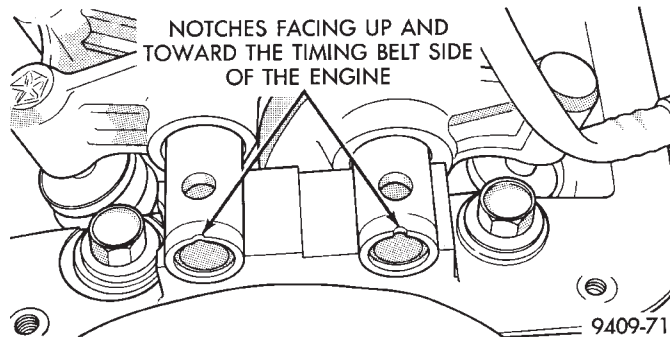

Fig. 25 Rocker Arm Shaft Notches
(1) Install rocker arm/hydraulic lash adjuster assembly making sure that adjusters are at least partially full of oil. This is indicated by little or no plunger travel when the lash adjuster is depressed. If there is excessive plunger travel. Place the rocker arm assembly into clean engine oil and pump the plunger until the lash adjuster travel is taken up. If travel is not reduced, replace the assembly. Hydraulic lash adjuster and rocker arm are serviced as an assembly.
(2) Install rocker arm and shaft assemblies with NOTCH in the rocker arm shafts pointing up and toward the timing belt side of the engine (Fig. 25). Install the retainers in their original positions on the exhaust and intake shafts (Fig. 23).